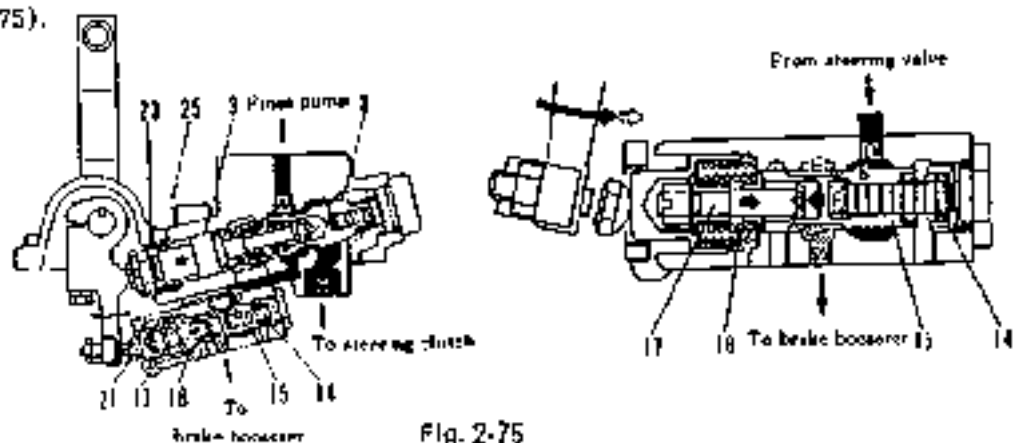

Fig. 2-75
(5) When the oil pressure at the brake valve reaches the maximum value:
When the steering lever is pulled to its stroke end, shaft (3) moves in the direction of the arrow until it contacts stoppers (23) and (25). Steering valve (8) does not move any more. Adjusting bolt (21) pushes shaft (17) in the direction of the arrow to compress brake valve (15). Shaft (17) does not reach the stroke end even when shaft (3) reaches the stroke end and the oil entering port F via orifice "b" of brake valve (15) pushes piston (14). The reaction force pushes back brake valve (15) in the direction of the arrow to compress spring (18) and close the passage between ports D and E. In this state, the oil pressure in the circuit from the inlet to the booster balances with the tension of spring (18), reaching the maximum installation load so that the oil pressure is kept at a constant value and the brake operation is completed. Under these circumstances oil pressure in the circuit after port E is 1.66MPa (as shown in Fig. 2-75).